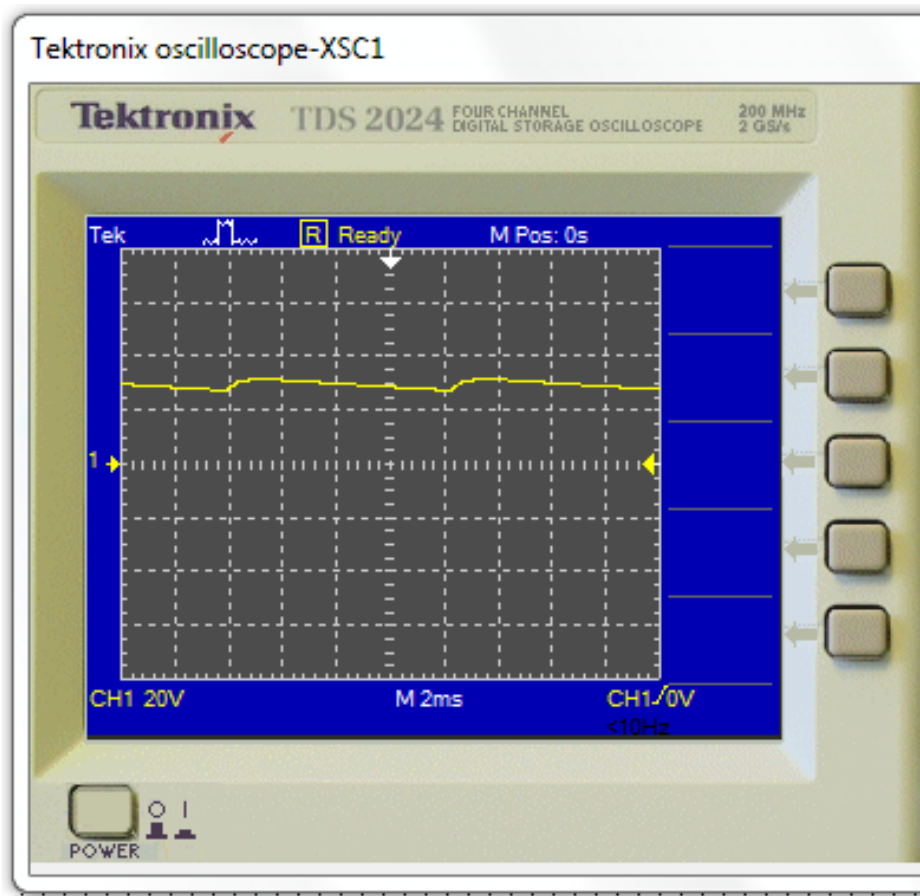

Fig. 2 Expected Output
**Step 2:** The expected output of this circuit is shown in figure 2. Compare the actual output of the circuit to the expected output.
**Step 3:** Measure the output of the circuit and compare with figure 2.